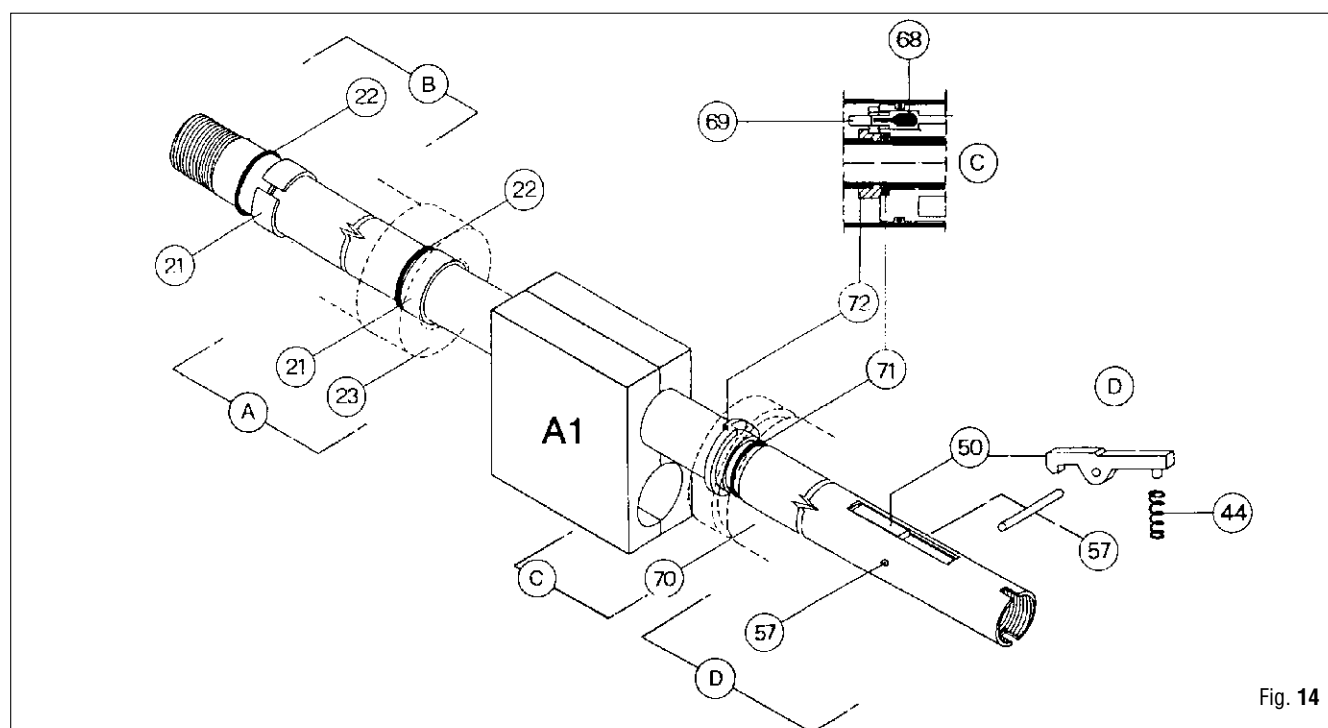

Fig. 14
1. Place the barrel in the 16 mm. jaws (A-1) (Fig. 3) and clamp into vise (Fig. 14).
2. Install one barrel bushing (21) in the inner groove of the barrel with tool A-7 (Fig. 14-A). (only Cyrano version)
3. Place one o-ring (22) against the barrel bushing (21) with tool A-7 (Fig. 14-A). (only Cyrano version)
4. Place o-ring (29) on the nose cone reinforcement (23). (only Cyrano version)